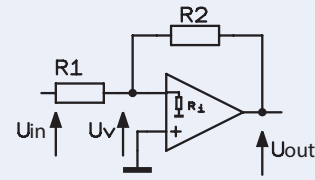

Figure 2: The inverting amplifier.
**Figure 2** shows the basic schematic diagram of the inverting amplifier. As you can see, it requires only two external components in the form of two resistors. For audio applications, a pair of capacitors is usually also added.